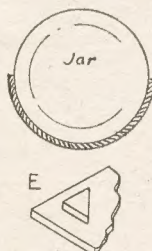

Fig. 3—Shaping the curve
It is advisable to warm the jar first, in case the hot Perspex cracks it. Get a friend to hold the jar bottom upwards on the table, then press the Perspex round it, as in Fig. 3. Before
As Perspex is rather expensive, an economy in material can be effected here by cutting four angular pieces of the Perspex to the shape, C. Cement one at each corner of the lid, underneath, as at (E). Fig. 3, in place of the smaller rectangle of the lid that is suggested above, to make the rim. The pieces can be quite small, say  $\frac{1}{8}$  in. each way, and will act efficiently, but they must be accurately positioned for the lid to fit correctly on.